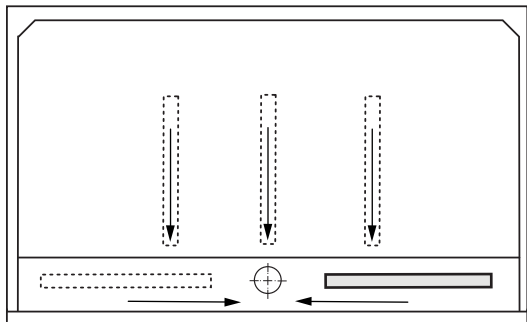

Figure 7
- 3 Place a level as shown in Figure 7 and verify that there is slope towards the drain.